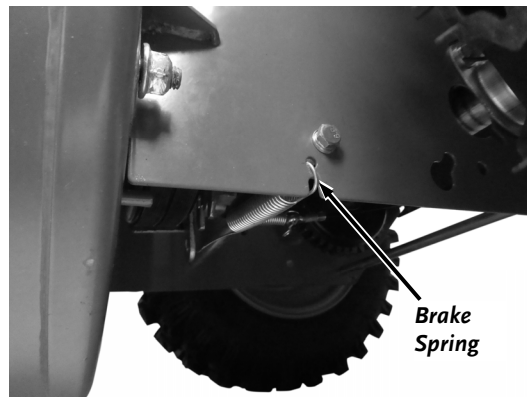

Figure 44
5. Remove the Brake Spring from bottom left side of the Frame so the Brake Pad will come away from the Auger pulley, making room for Belt removal (**Figure 44**).